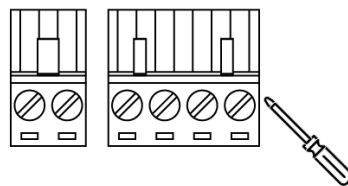

Figure 2
- Tighten the wire-clamp screws to prevent the wires from loosening, as shown below in Figure 2.